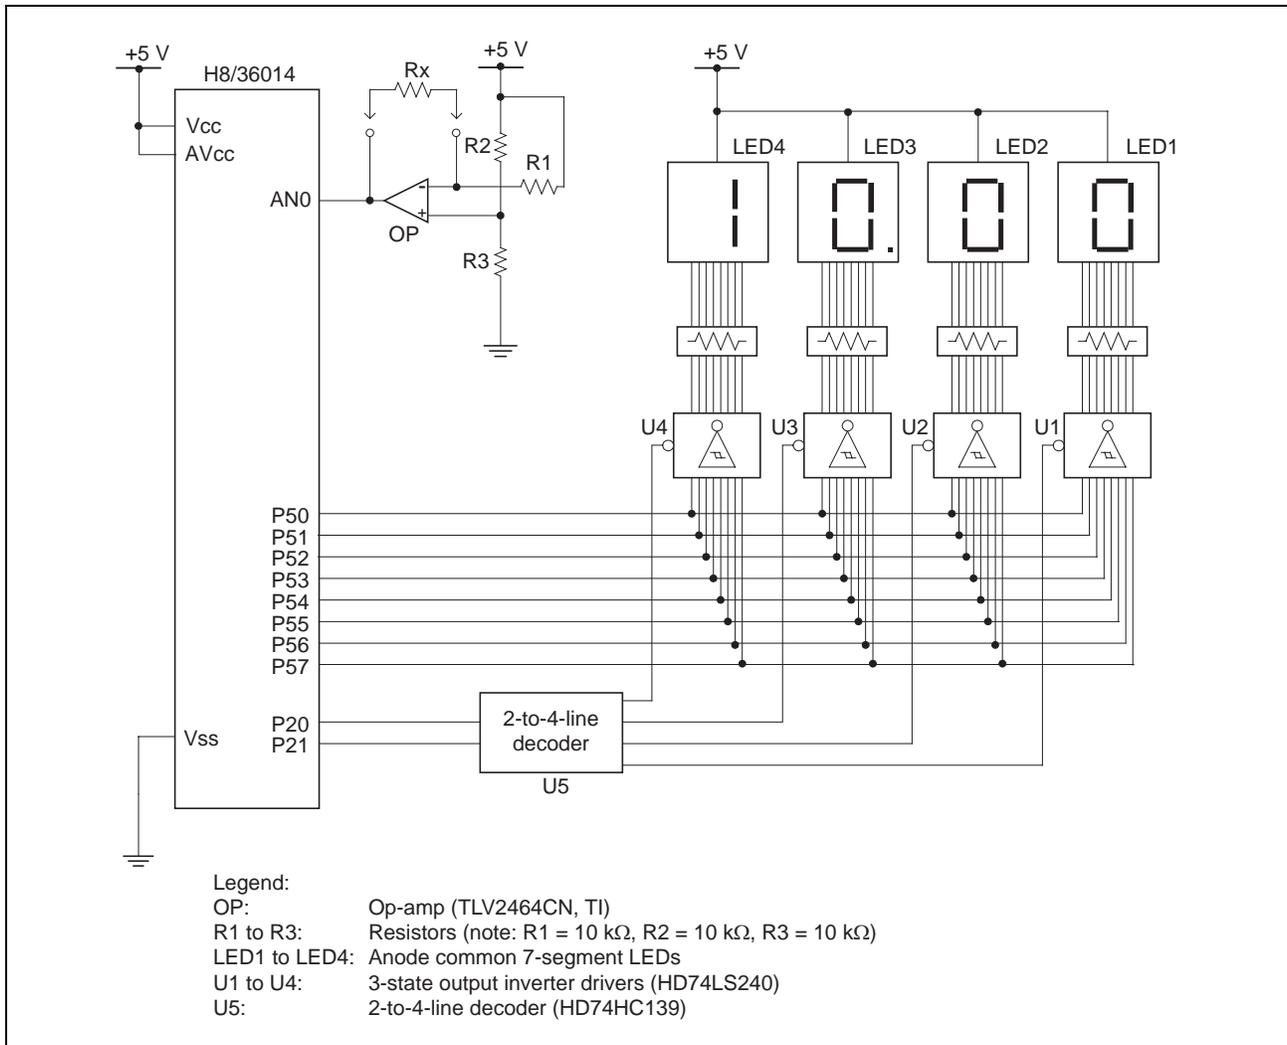

Figure 1 Hardware Configuration
- (1) The hardware configuration used to measure resistance values is shown in figure 1.
- (2) In this sample task the ohm meter comprises the reference resistor R1, an inverting op-amp, and the A/D converter built into the H8/36014.
- (3) The output voltage from the op-amp is input to analog input pin 0 (the AN0 pin) of the A/D converter, which performs A/D conversion.
- (4) The resistance value is obtained from the A/D conversion result by calculation and displayed as a decimal number on a 7-segment LED connected to the I/O ports.
- (5) In this sample task the operating voltage (Vcc) and analog power supply voltage (AVcc) of the H8/36014 are 5 V, and the OSC clock frequency is 20 MHz, supplied as an external clock by a crystal oscillator.
(a) Connect the resistors to be measured (using probes, or the like) to Rx as shown in figure 1.